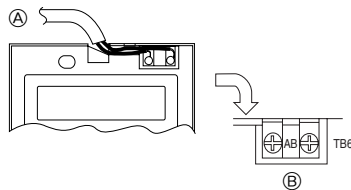

Fig. 6-6
2) Connecting procedures (Fig. 6-6)